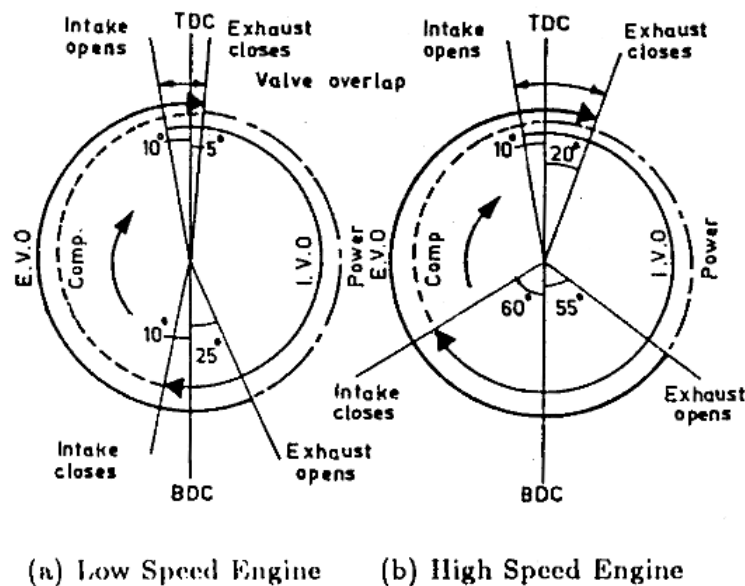

Fig. 5.10 Valve Timing Diagram of Four-Stroke Engines
- Figure 5.10 shows representative intake valve timing for both a low speed and high speed SI engine.